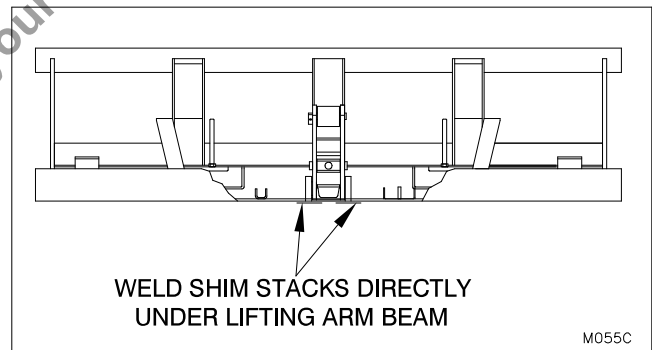

Figure 10: Shim Beneath Lifting Arm Bracket
21. ___ Place shims of minimum length and width of 3” by 4” and a minimum thickness of 14 gauge directly under lifting arm bracket. (See “Figure 10: Shim Beneath Lifting Arm Bracket” on page 9) Weld shim stacks to dock leveler frame.